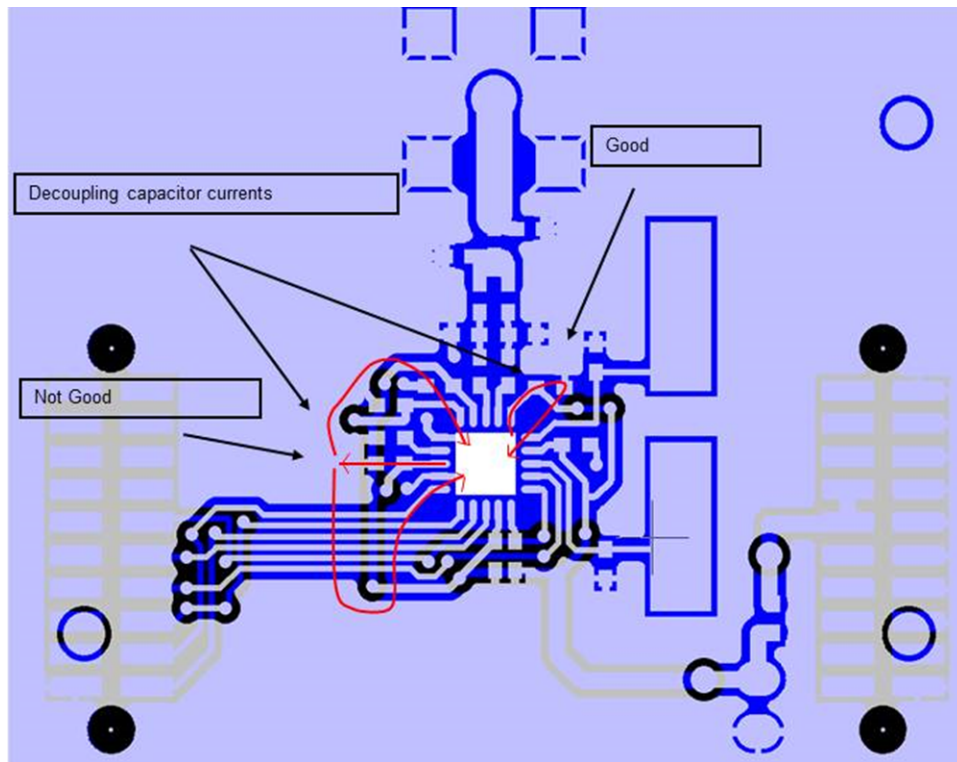

**Figure 10. Decoupling Capacitors and VIA to Ground**
- Each decoupling capacitor should have a separate via to ground to minimize noise coupling (see Figure 10)